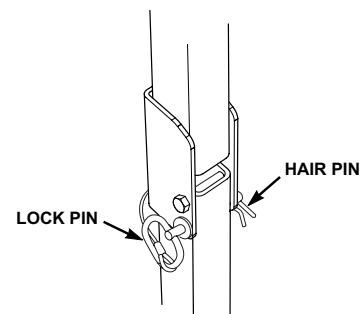

Figure 2-3. ROPS Hinge
1. To lower the roll bar, remove the hairpin cotter pins and remove the two (2) lock pins. See Figure 2-3.
4. Install the two (2) lock pins through the hole, secure with the two (2) hairpin cotter pins. See Figure 2-3.